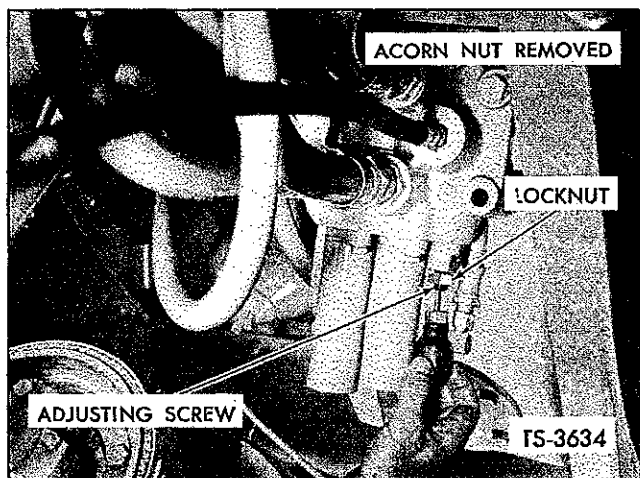

Fig. 42. Adjust Pressure — Boom and Bucket Control Valve
4. Remove acorn nut on end of adjusting screw, and loosen locknut. Insert screwdriver and turn screw clockwise to increase pressure, counterclockwise to decrease pressure. See Figure 42. Turn screw in increments of approximately one revolution or less, set locknut, and retake reading. Repeat until gauge reads 1800 psi.